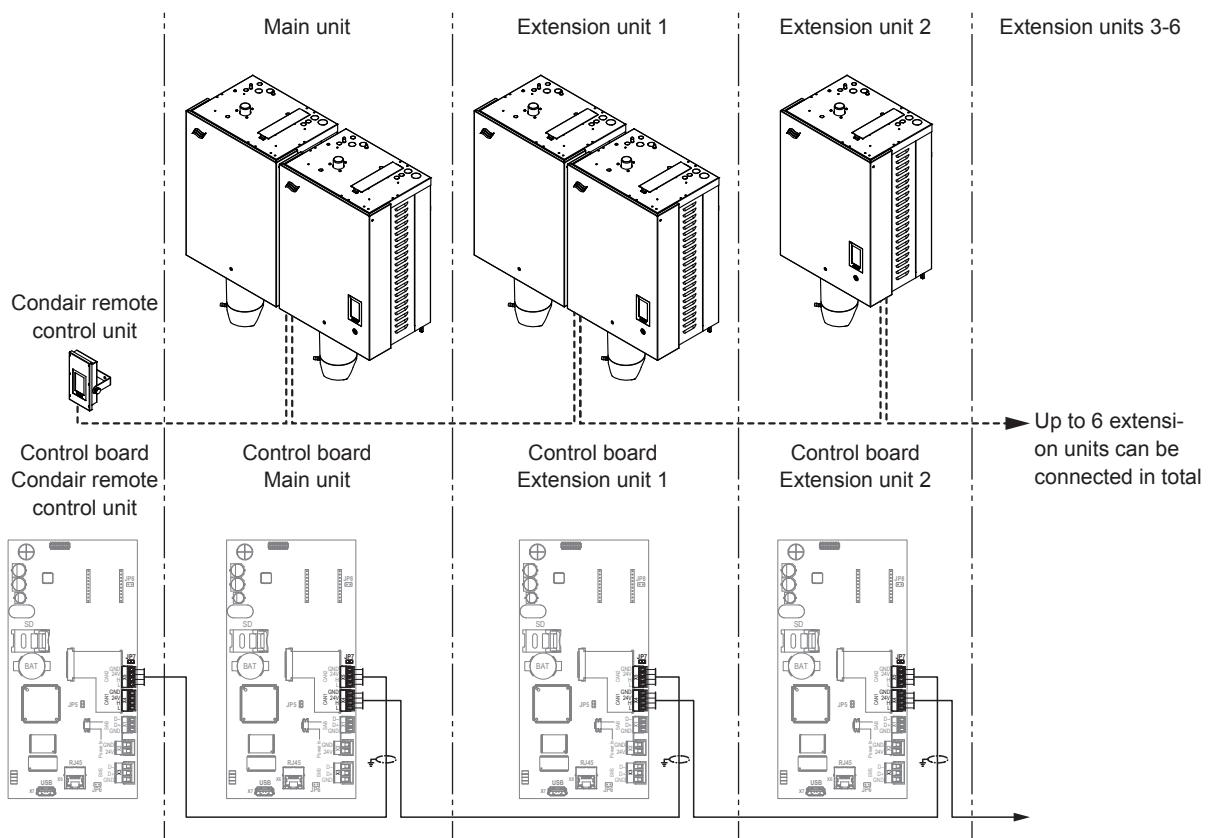
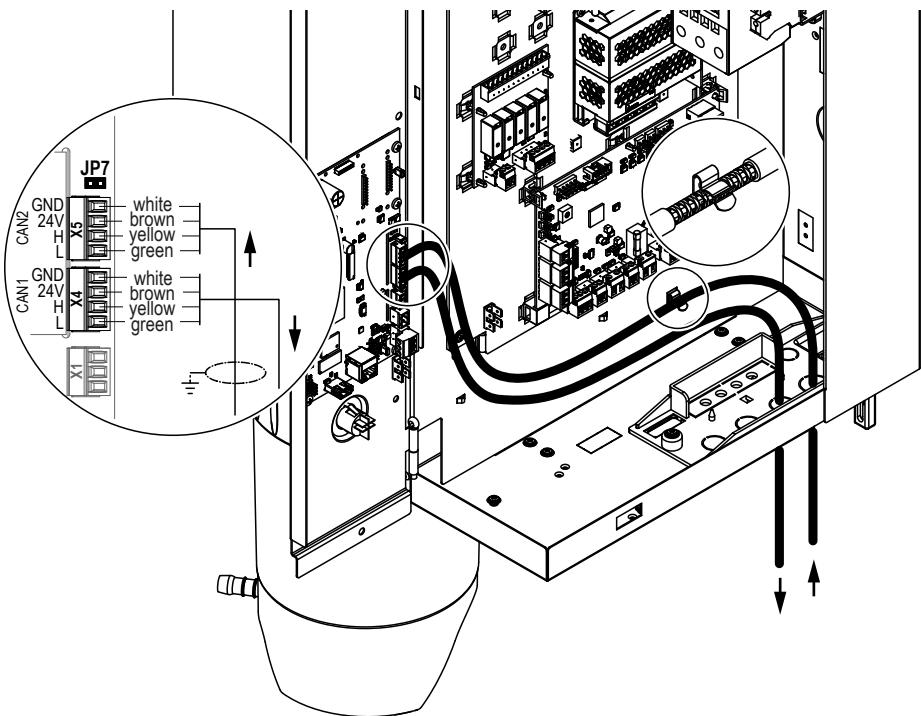

Fig. 28: Connecting multiple units (device interconnected system)
Fig. 29: CAN Bus cable connection / Shielding
Connect multiple units as follows (see Fig. 28):
2. Connect all devices in the "device interconnected system" using the supplied pre-assembled CAN Bus cables according to the diagram shown in Fig. 28 and Fig. 29.
- Pinch the freed shielding of the pre-assembled CAN Bus cable comming from the previous device into the clamp holder inside the control compartment of the Condair Omega Pro as shown in Fig. 29.
- Connect CAN Bus cables to the corresponding terminal block (incomming cables to "X5" and outgoing cables to "X4") as shown in Fig. 29 on the control board of each device.